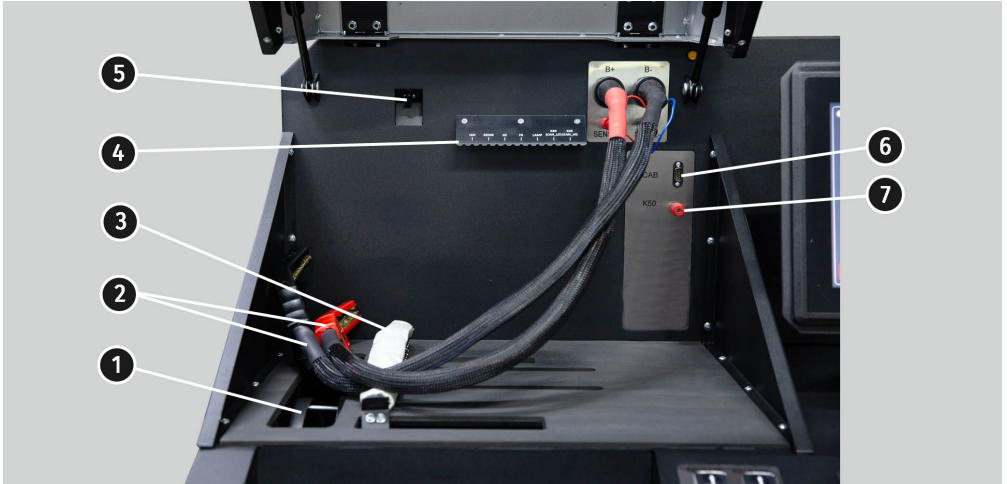

Figure 2. Work platform of the bench
Work platform (Fig. 2) includes the following elements:
For convenient usage of the diagnostic cable, it's recommended to put the alligator clips onto the bracket (ref. 4, fig.2).